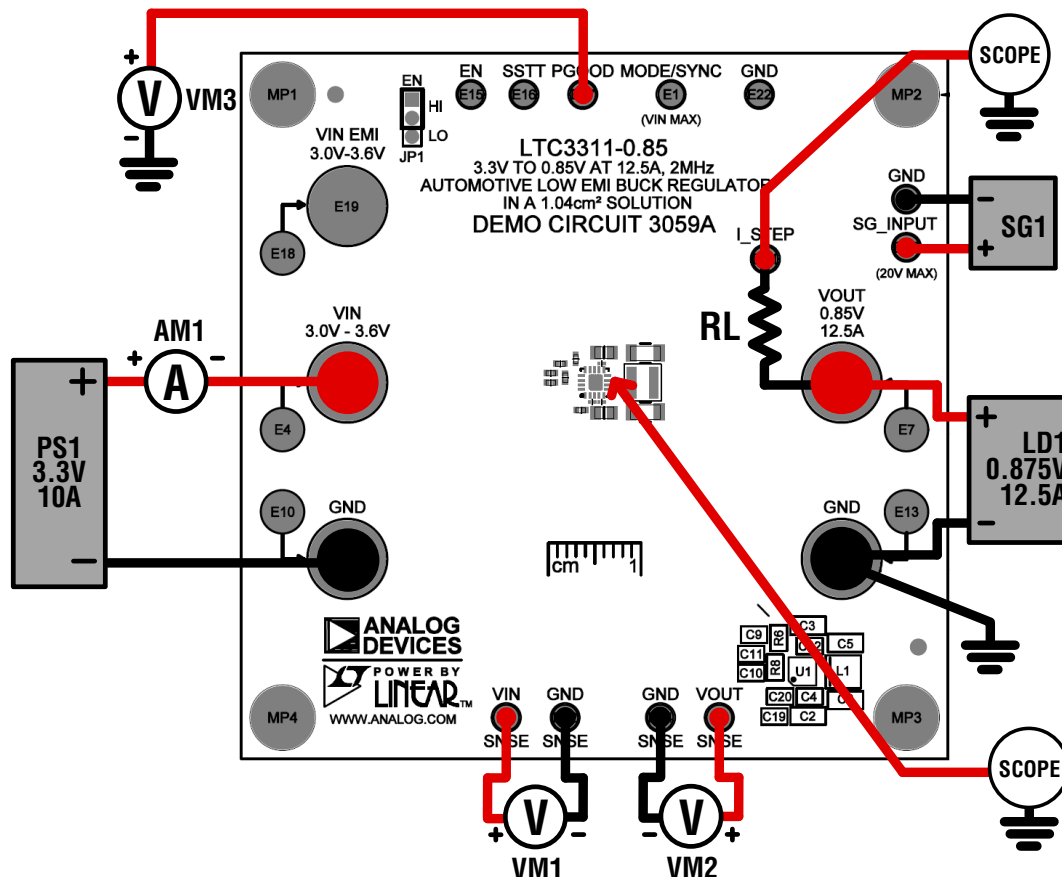

Figure 2. Test Setup for DC3059A Demo Board
Refer to Figure 2 for the proper measurement equipment setup and follow the procedure below:
NOTE: For accurate  $V_{IN}$ ,  $V_{OUT}$  and efficiency measurements, measure  $V_{IN}$  at the VIN SNSE and GND SNSN turrets, and measure  $V_{OUT}$  at the VOUT SNSE and GND SNSE turrets as illustrated as VM1 and VM2 in Figure 2. When measuring the input or output ripple, care must be taken to avoid a long ground lead on the oscilloscope probe.
- To test the transient response with a base load, add the desired resistor to produce a minimum load between VOUT and I\_STEP turrets (RL shown on Figure 2). Note that the total load resistance will be RL plus R10